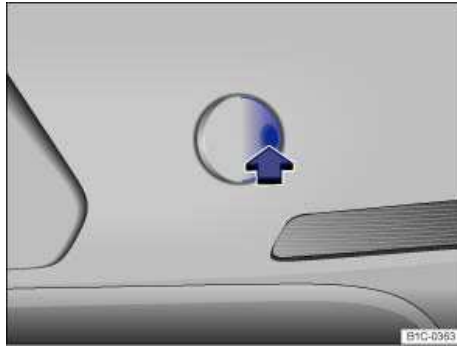

Fig. 176 In the right rear bumper: Removing the cover.
- Push on the cover at the right side marking ⇒ fig. 176 (arrow) so that it pops out.